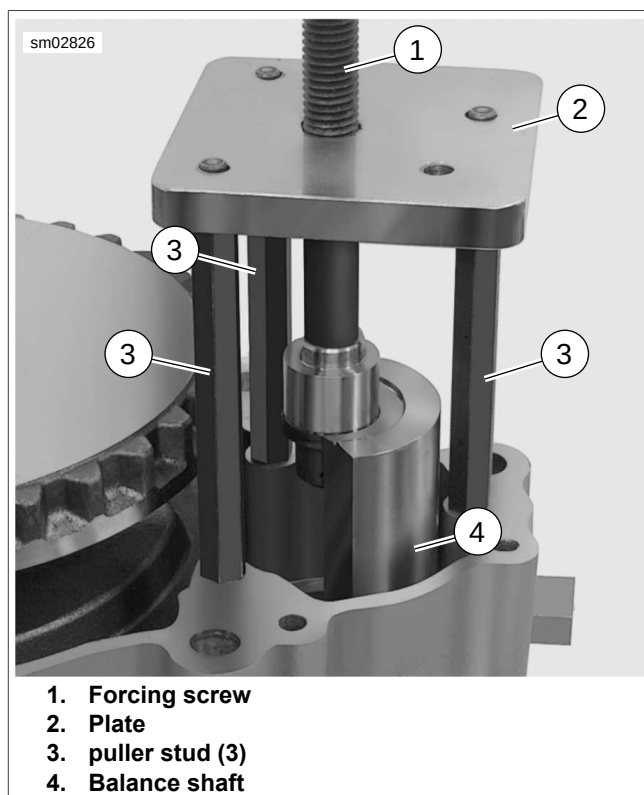

Figure 3-151. Balance Shaft Remover
2. See Figure 3-151. Assemble BALANCER AND BEARING REMOVER (Part No. HD-48457-A).
- a. Sparingly apply clean engine oil to forcing screw (1) for smooth operation and to prolong service life.
- b. Install puller studs (3) in crankcase.
- c. Install plate (2) over puller stud with appropriate side marked "Front" or "Rear" facing up.
- d. Install forcing screw in balance shaft (4).